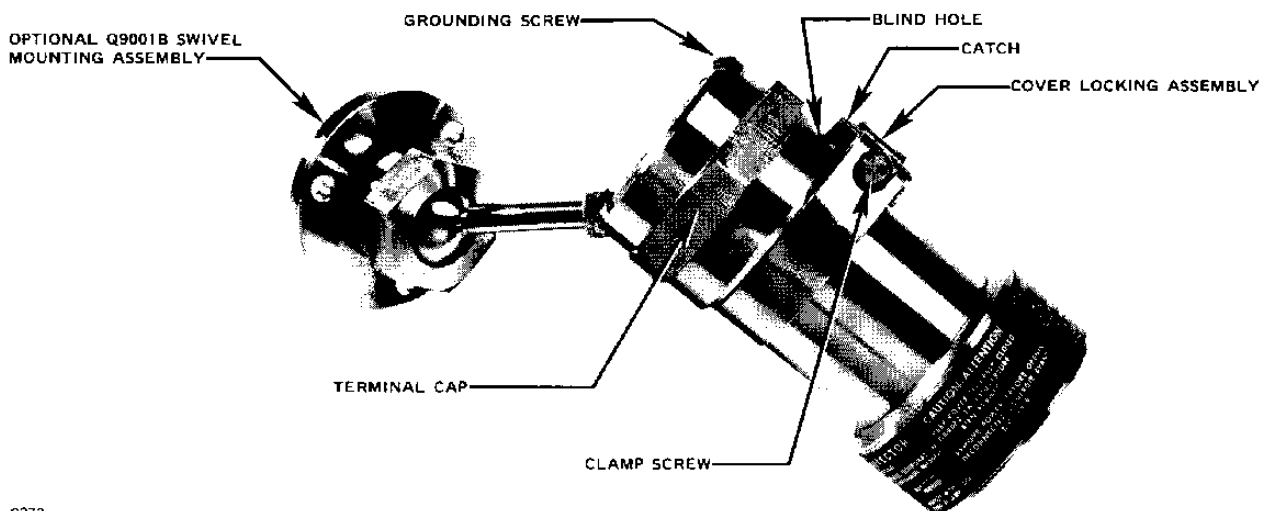

Figure 21—C7050 Detector with Cover Locking Assembly
6. Replace detector housing. If the detectors are equipped with cover locking devices, loosen the clamp sufficiently so that the "catch" can be seated in the blind hole provided on the terminal cap. (See Figure 21.) The clamp must then be fastened securely around the detector barrel by tightening the clamp with the proper tool. This locking cover feature is required for equipment approved by BASEEFA and P.T.B. The tool required